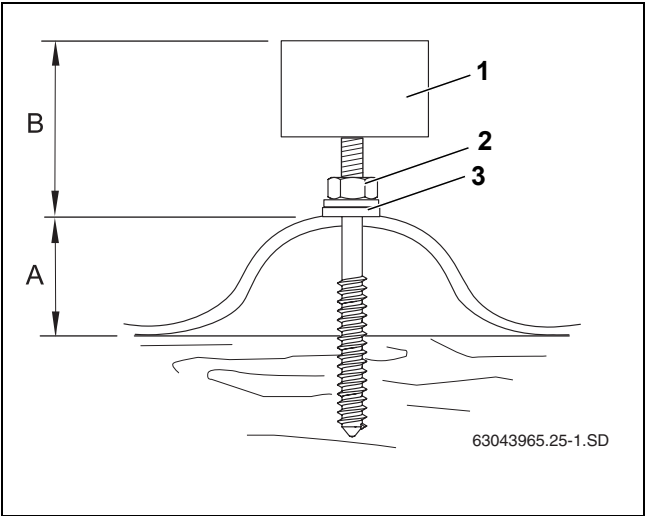

Fig. 25 Carriage bolt fitted to corrugated roof
When turning the carriage bolts, ensure that distance B (tab. 7 and Fig. 25) is the same for all carriage bolts.
- Tighten the nut (Fig. 25, [2]) until the sealing disc (Fig. 25, [3]) fully touches the roof.